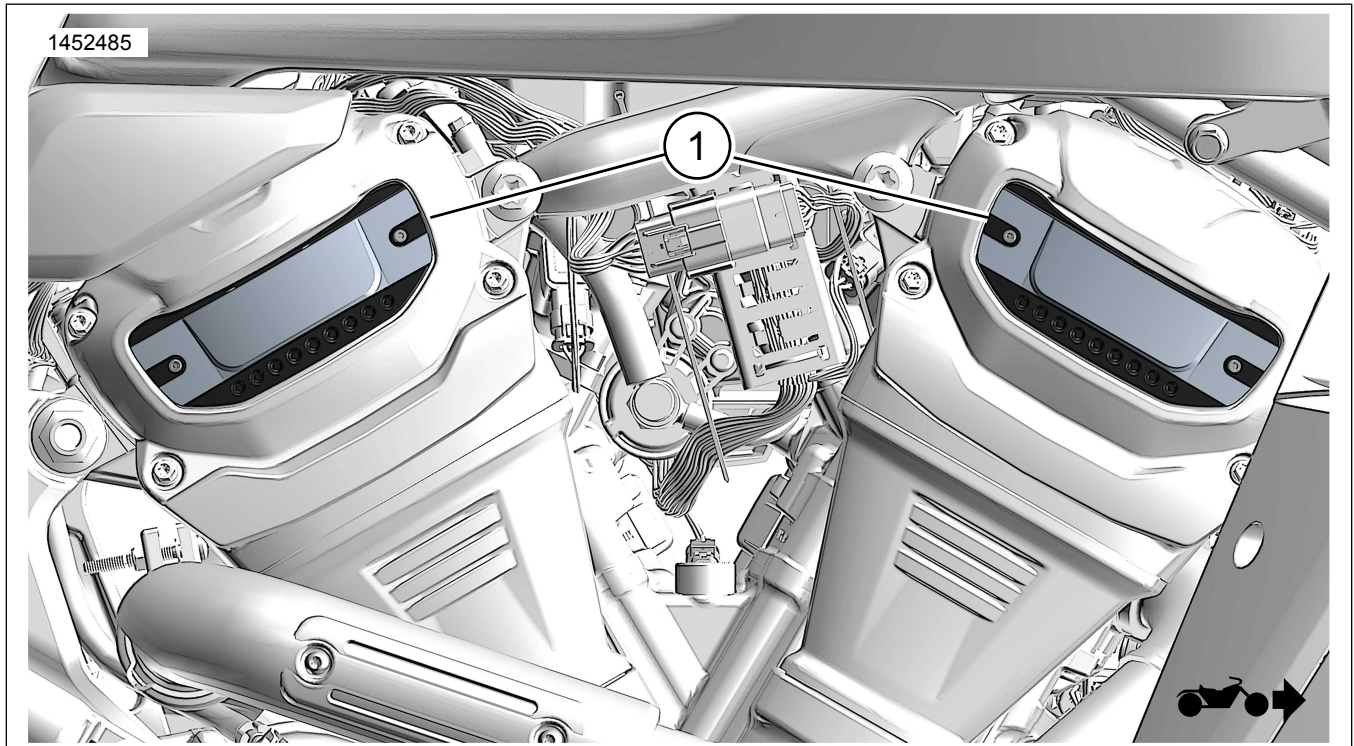

Figure 1. Kit Contents: Camshaft Sprocket Cover Insert Kit
2. Test fit new camshaft sprocket cover insert (1).
4. Remove adhesive backing from camshaft sprocket cover insert (1).
5. Figure 1 Install camshaft sprocket cover insert (1) using marks made earlier as a guide.